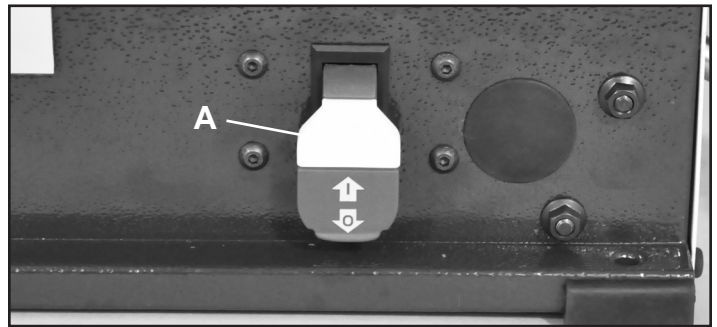

FIG. 12
1. The ON/OFF switch (A) is located on the front of the jointer. To turn the jointer "ON", the yellow Safety Tab (A) must be inserted in the switch. Then move the switch upwards to start the machine.
2. To turn the jointer "OFF", move the switch downwards. FIG 12.